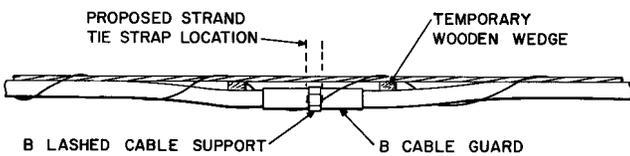
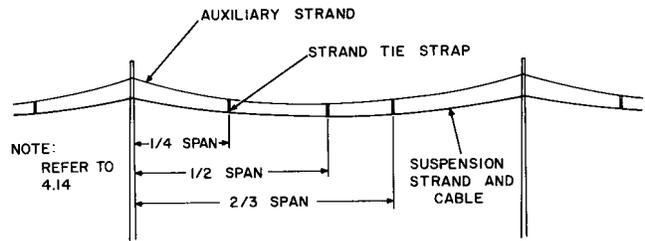

Fig. 5—Preferred Method of Sheath Protection
Fig. 10—Auxiliary Strand and Strand Tie Straps
- (a) **Preferred Method:** Separate the strand and cable at the attachment point with wooden wedges and install a cable guard under the lashing wire. Place a lashed cable support around the guard at the attachment location. Make one wrap of the support around the guard under the lashing wire and two wraps including the wire as shown in Fig. 5. Remove the wedges after the attachment is completed.
4.14 Tie straps are required at the 1/4- and 2/3-span points in spans less than 200 feet, and at the 1/4-, 1/2-, and 2/3-span points in spans of 200 feet and over. If dancing continues, add a tie strap at the 1/2-span point in the shorter spans. Fig. 10 illustrates the auxiliary strand and tie strap arrangement for spans of 200 feet and over.
4.17 Install 14-inch tie straps between the two strands at the locations indicated in Fig. 10 so the auxiliary strand partially supports the cable weight. Protect the sheath from abrasion at these locations by using the method shown in Fig. 5 or 6.